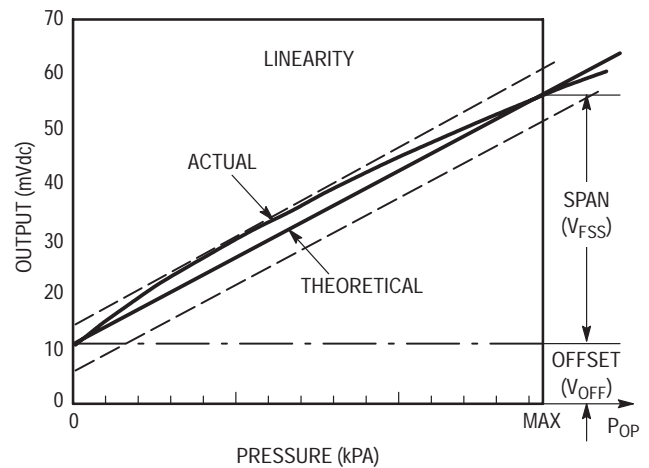

Figure 3. Linearity Specification Comparison
Linearity refers to how well a transducer's output follows the equation: $V_{\text{out}} = V_{\text{off}} + \text{sensitivity} \times P$ over the operating pressure range (Figure 3). There are two basic methods for calculating nonlinearity: (1) end point straight line fit or (2) a least squares best line fit. While a least squares fit gives the "best case" linearity error (lower numerical value), the calculations required are burdensome.